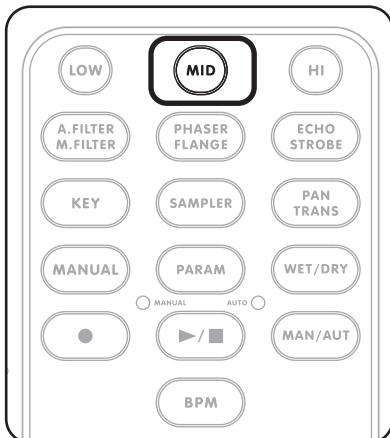

Figure 4.18
2. Select the frequency range you want to send the effect to. (Figure 4.18) In this case, we are sending it to the Mid range frequencies. When you first select the frequency range, it will sound like the filter is engaged but the effect is not. This is normal.